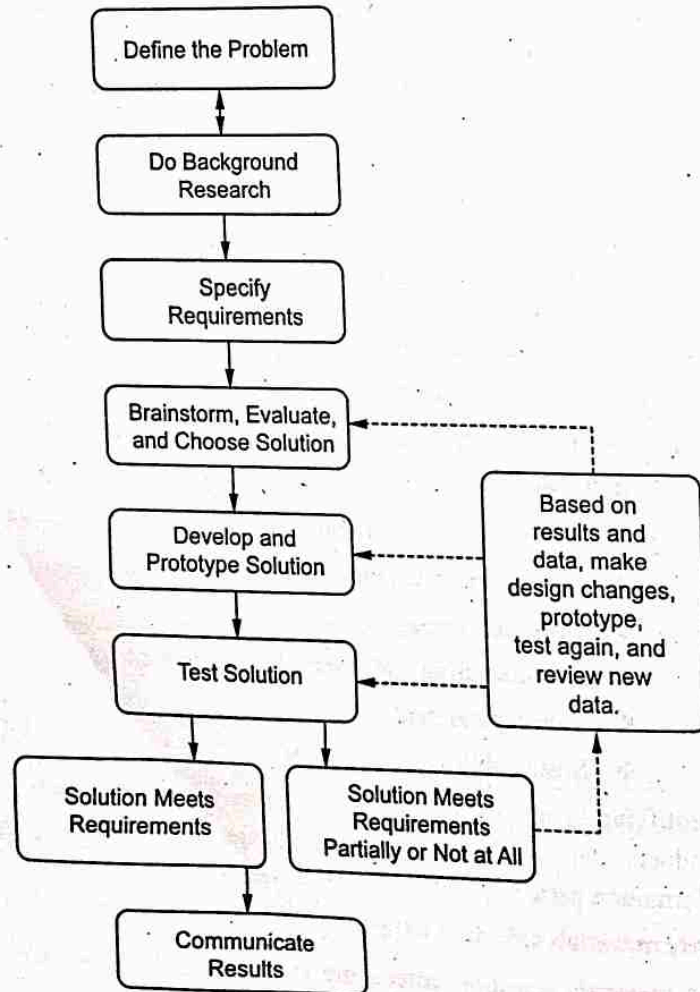

Fig. 1.8. Failure analysis
- ❖ The selection of materials is finalized with help of failure analysis mode which is given in Fig. 1.8.